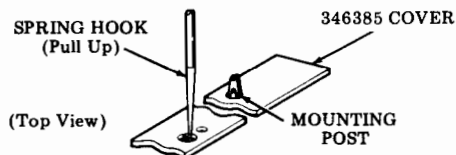

Fig. 15—Cover Removal
- (d) Remove the circuit card cover located in front of the control keys from the channel. Use a spring hook to remove the cover from the mounting posts (Fig. 15).